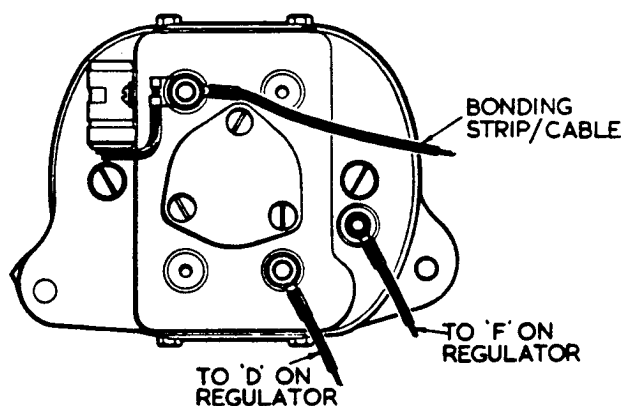

Fig. 1.
1. On production and replacement dynamos, the positive brush is insulated and a terminal provided opposite the negative terminal (Fig. 1).